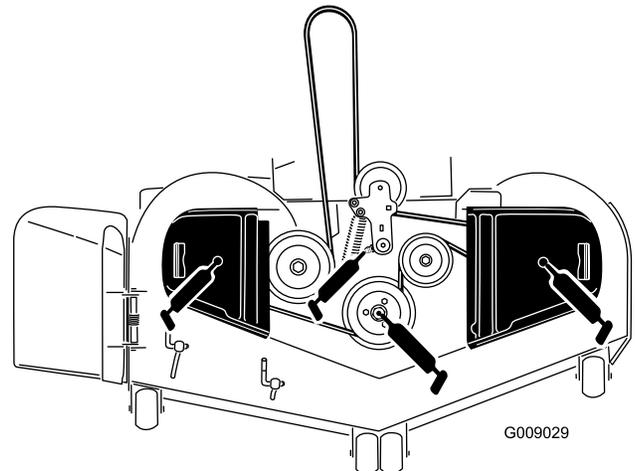

Figure 47
4. Grease the mower deck idler pulley pivot until grease come out the bottom (Figure 47).
5. Grease the fittings on the top of the 3 spindle bearings until grease comes out (Figure 47).